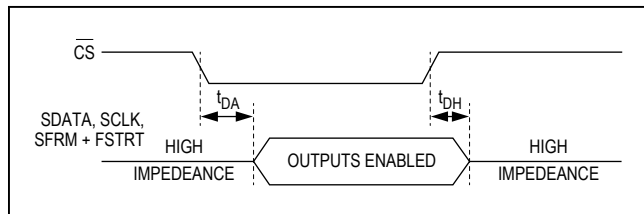
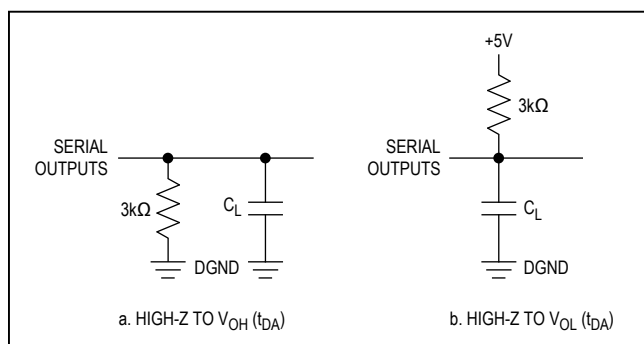

Figure 3. Data-Access + Data-Hold Timing
Figure 4. Load Circuits for Data-Access Time
**Note 5:** Control inputs specified with  $t_r = t_f = 5ns$  (10% to 90% of  $+5V$ ) and timed from a voltage level of  $1.6V$ . Output delays are measured to  $+0.8V$  if going low, or  $+2.4V$  if going high. For a data-hold time, a change of  $0.5V$  is measured. See Figures 4 and 5 for load circuits.
See Figure 3 for the data-access and data-hold timing diagram if several devices share the serial bus. The equivalent load circuits for data-access and data-hold timing are shown in Figures 4 and 5.